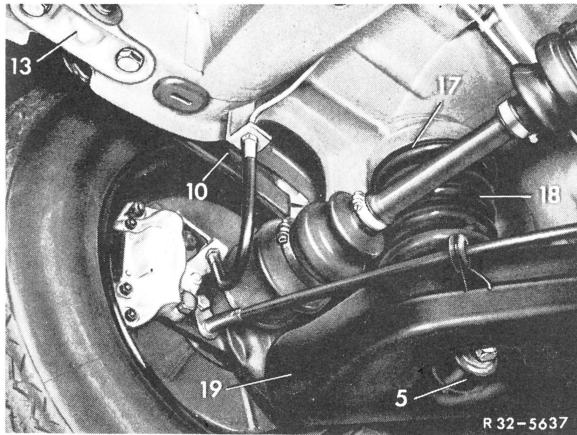

Fig. 3
4 Unscrew retaining clamp (13) on right and left of torsion bar mounting (Fig. 3).